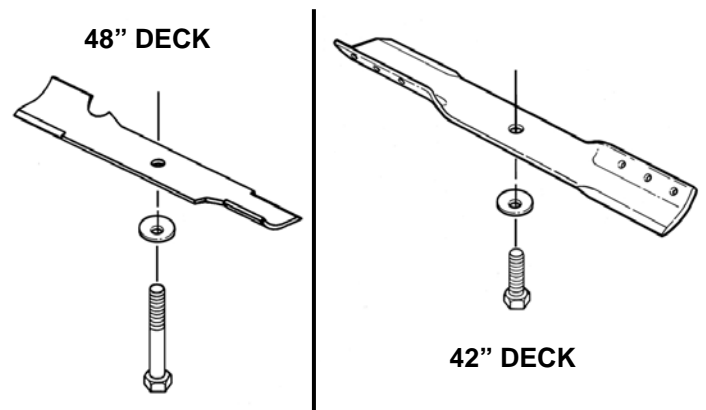

FIGURE 4.12
5. Remove blade(s). See Figure 4.12.
9. Reinstall blade. See Figure 4.12. Torque blade mounting bolts to recommended range of:
1. Remove blade(s). See Figure 4.12. Replace blade(s) if it shows signs of excessive wear or damage.